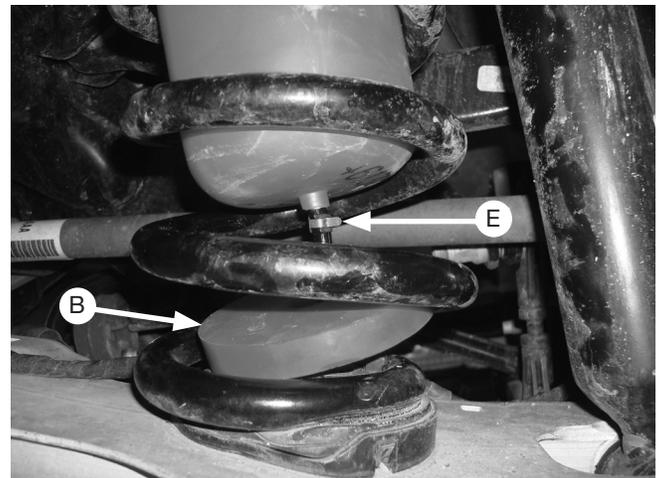

Fig. 5
5. Using a pair of pliers, slide an air line clamp (E) over the end of the air line. Route the air line coming out from the lower control arm through the spacer (B). Push the air line over the barbed stem of the air spring completely and slide the clamp over the barbed stem area (fig. 5). Once the air line is installed, push the air spring to the bottom of the coil spring. Repeat for the opposite side.